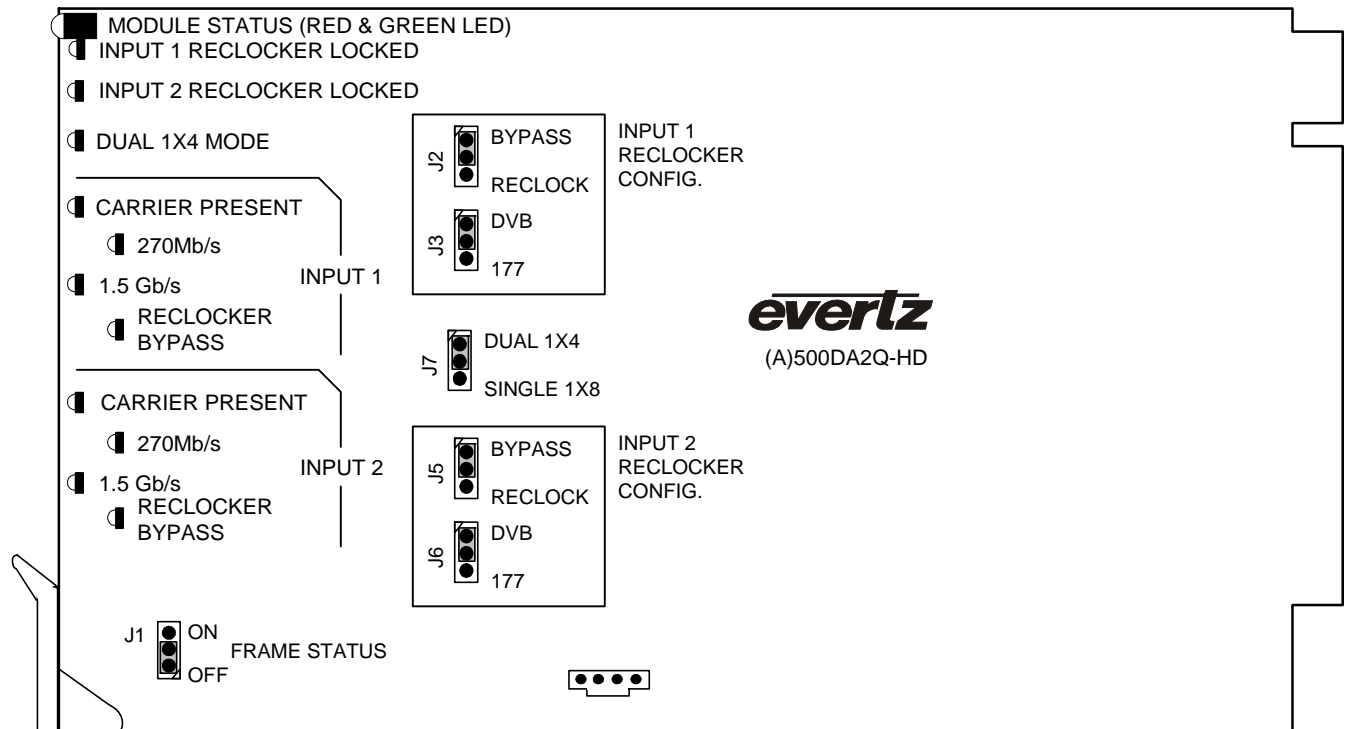

Figure 5-1: LED and Jumper Locations
- OUT 1A to 4A:** These four BNC connectors are used to output reclocked serial component video from IN (A).
- OUT 1B to 4B:** These four BNC connectors can be configured to output reclocked serial component video from IN (A) when jumper J7 is set to SINGLE 1x8 mode. When jumper J7 is set to DUAL 1x4 mode, these connectors output reclocked serial component video from IN (B). See Figure 5-1 for the location of J7.
The 500DA2Q-3G has thirteen LED Status indicators on the front card edge to show operational status of the card at a glance. Figure 5-1 shows the location of the LEDs.